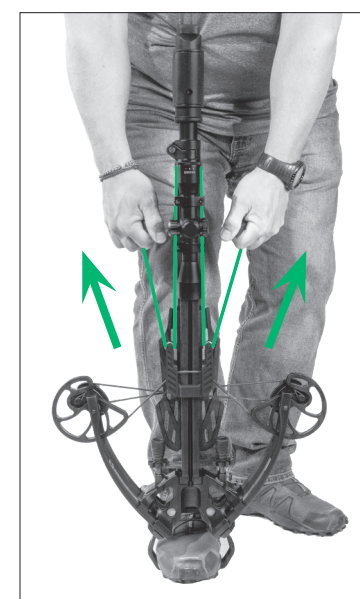

FIGURE 17
Pull both T-shaped handles of the cocking sled up simultaneously while pressing down into the stirrup. Doing this will draw the bowstring under the ball bearing retention spring (Part 11) and into the trigger mechanism. When the crossbow is successfully cocked, the bowstring will be captured by the trigger latch and the safety switch will automatically click from (F)IRE to the (S)AFE position. See Figures 17 and 18.
**WARNING:** NEVER PLACE ANY PART OF YOUR BODY (INCLUDING HANDS OR FINGERS) INTO THE TRAVEL PATH OF THE BOWSTRING OR CABLES. KEEP YOUR FRONT HAND ON THE FOREGRIP OF THE STOCK BELOW THE TRAVEL PATH OF THE STRING AND CABLES AT ALL TIMES (SEE FIGURE 17). FAILURE TO FOLLOW THIS WARNING COULD LEAD TO SERIOUS INJURY OR DEATH.